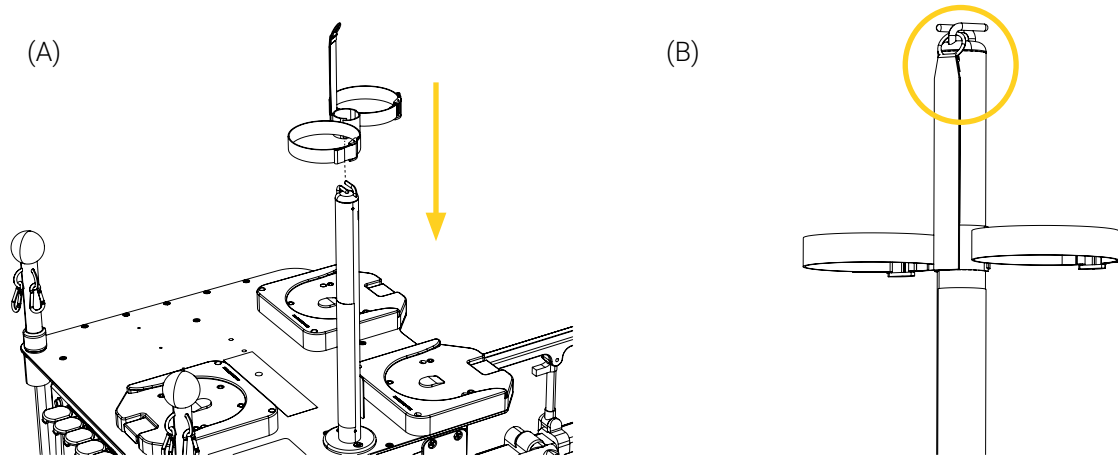

Figure 46: Installing the Techni-IV pole strap
5. Insert the center loop of the strap on the Techni-IV pole (Figure 46 A).
6. Hook the eyelet at the end of the strap into one of hooks at the top of the Techni-IV pole to install the strap (Figure 46 B).